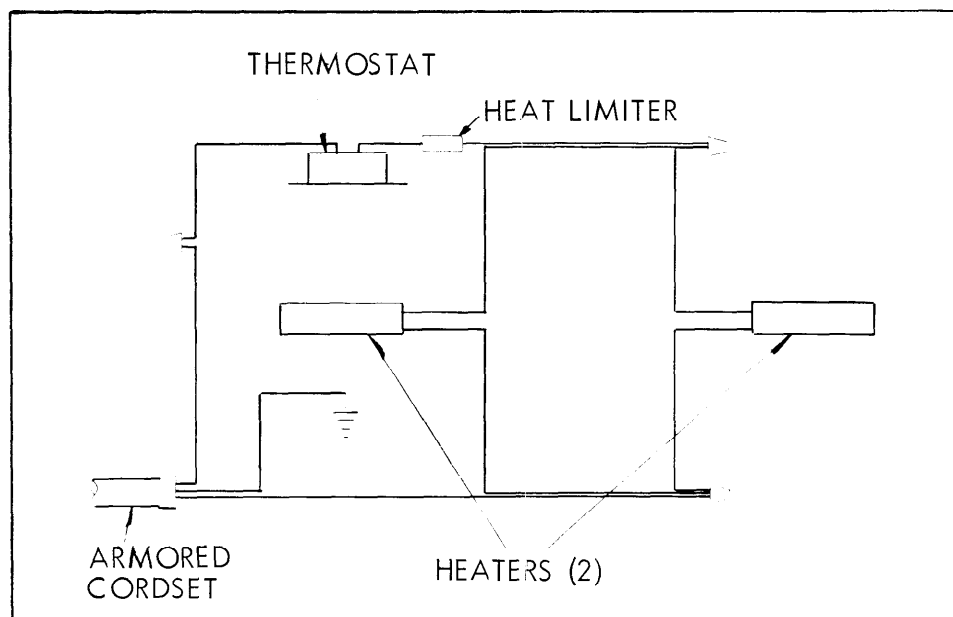

Figure 4 - Wiring Diagram
6. Insert the sleeve (18) in the lower end of the lower body, be certain the O-ring is in position on the ball seat (19), and secure the ball seat, lower body and upper body together with four oval head screws. Torque each screw to 25-30 inch-pounds.
7. Thread the air piston assembly (5) on the bellows until the air piston rests against the top of the upper body. Then back the air piston off 1/4 to 1/2 turn. Use the locknut (6) to secure the assembly on the bellows stem.
8. Place the air cylinder gasket (4) on the upper body, position the air cylinder (3) over the gasket and secure the air cylinder to the upper body with four screws and lockwashers. Torque each screw to 25-30 inch-pounds.
9. Attach the bracket and armored cordset with bracket to the rear of the lower body. Make the electrical connections (refer to Figure 4). Attach the electrical enclosure to the gun body with two screws.